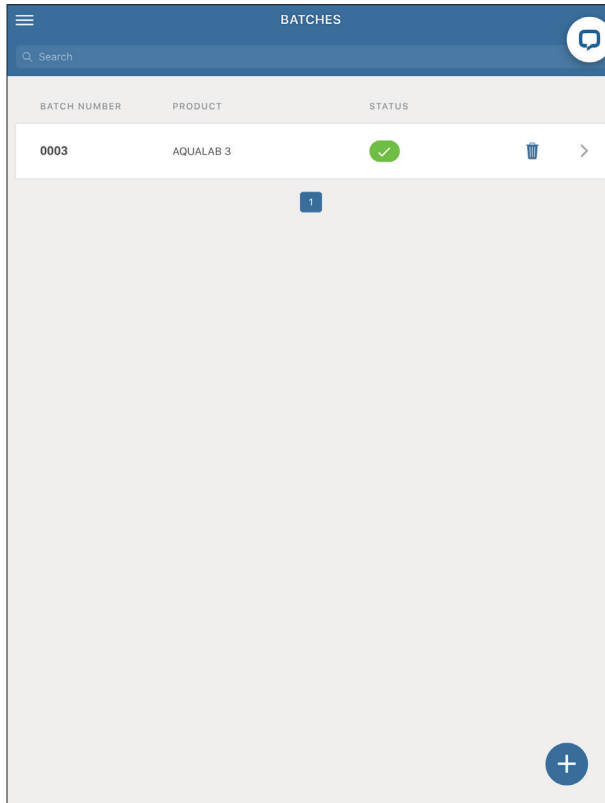

Figure 47 Example Batches page
The Batches window will open showing a list of batches (Figure 47).
3. Select the right-pointing arrow at the far right of the batch to be tested (Figure 47).